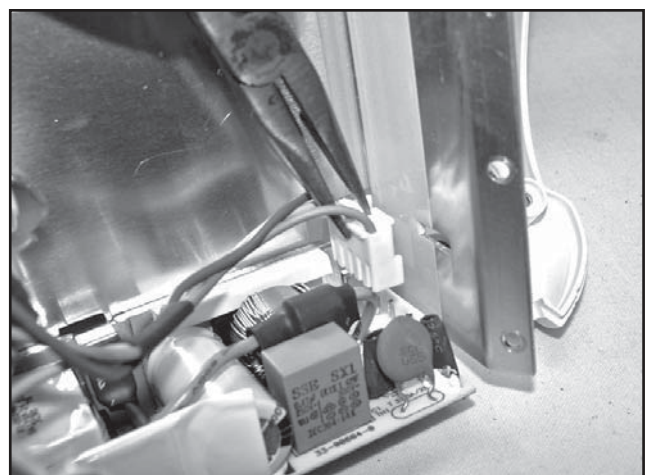

FIGURE 6.44
11. Using Insulated Needle Nose Pliers, remove the 100 Watt Power Supply Harness from the 75 Watt Power Supply. **See Figure 6.44.**